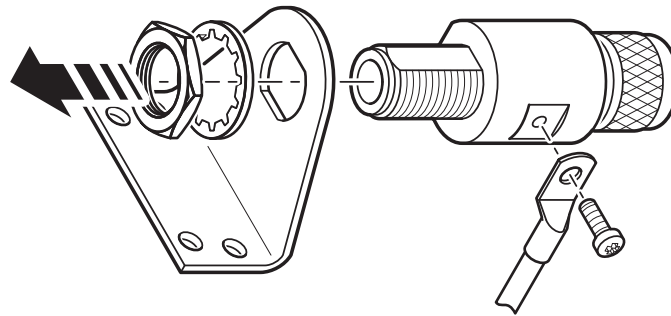

Figure 11.1: Assembly of the MBG-S-PRO Surge Protector
2. Fit the MBG-S-PRO surge protector to the mounting bracket as shown in Fig. 11.1. The MBG-S-PRO has no dedicated input or output polarity and therefore has no preferred installation orientation.